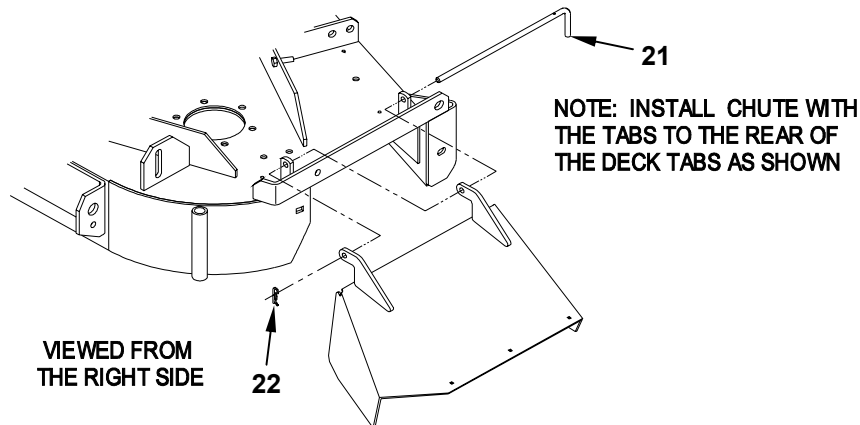

FIGURE 2
- 3.3.6 Install the discharge chute using the chute pivot pin and hairpin (See Figure 2).